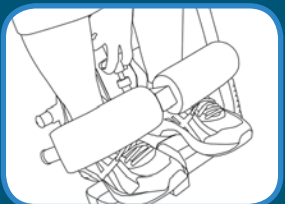

Figure 8
- Pull the T-Pin Lock out to allow the front ankle clamps to snap closed against your ankles (Figure 8). Make sure your pant legs do not interfere with obtaining a secure closure.